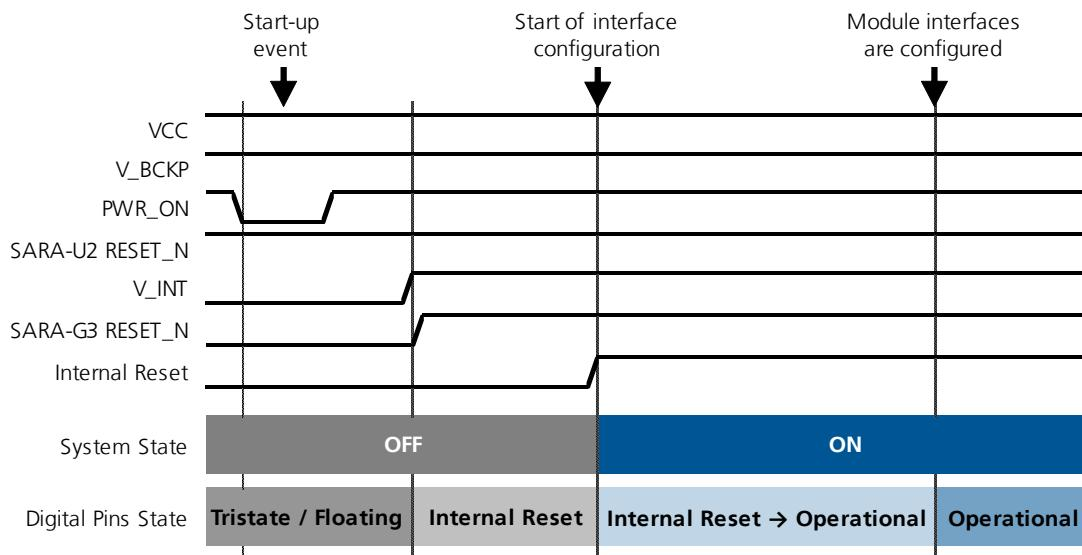

Figure 19: SARA-G3 and SARA-U2 series power-on sequence from power-off mode
Figure 19 shows the modules power-on sequence from the not-powered mode, describing the following phases:
- The status of the **PWR\_ON** input pin while applying the **VCC** module supply is not relevant: during this phase the **PWR\_ON** pin can be set high or low by the external circuit, but in Figure 19 it is assumed that the **PWR\_ON** line rise suddenly to high logic level due to external pull-up connected to **V\_BCKP** or **VCC**.
Figure 19 shows the modules power-on sequence from the power-off mode, describing the following phases: